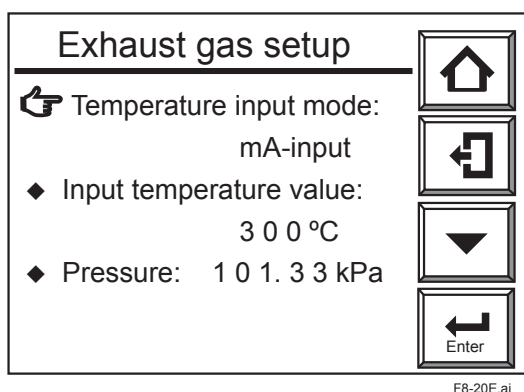
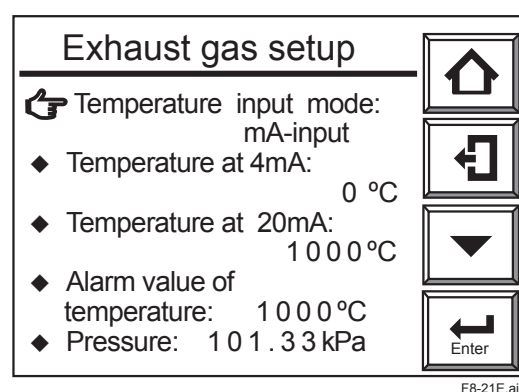

Figure 8.19 Exhaust Gas Setup Display (Preset Entry)
Figure 8.20 Exhaust Gas Setup Display (Entering mA-input)
- (1) Press the Setup key in the basic panel display to display the Execution/Setup display.
- (2) Select Setup in the Execution/Setup display. The "Commissioning" (Setup) display then appears.
- (3) Select Others in that display and then the Exhaust gas setup shown in Figure 8.19.
- (4) Point to the Temperature input mode and press the [Enter] key. Then the display for selecting either "Preset" or "mA input," appears. Choose the desired one for your system requirements.
- (5) If you choose the "Preset," a display for entering numeric data then appears. Enter the measurement gas temperature (see CAUTION).
- (6) If you choose "mA-input," the Exhaust gas setup display shown in Figure 8.20 appears. Enter temperatures at 4- and 20-mA outputs of the temperature transmitter from the numeric data entry display (See CAUTION).
- (7) If you use measurement gas temperature alarms, choose the "Alarm value of temperature" and enter an alarm temperature from the numeric data entry display.